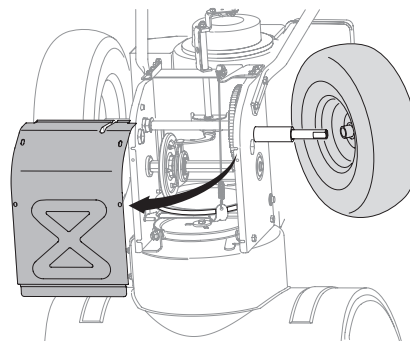

Figure 4-24
4. Remove frame cover from underside of unit by removing self-tapping screws which secure it. See Figure 4-4. Remove right-hand wheel by removing screw and bell washer which secure it to axle. See Figure 4-24.